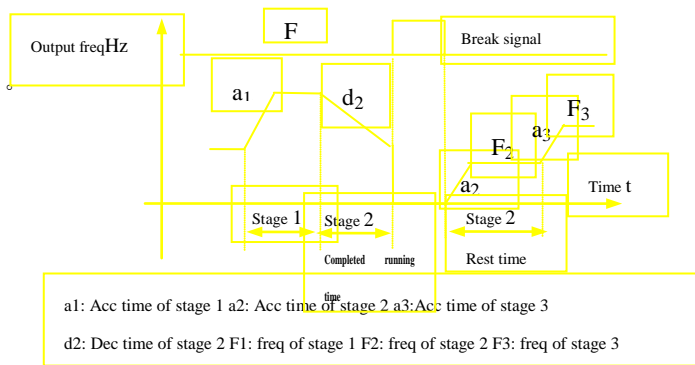

Fig.6-43 PLC restart mode 1
The inverter automatically starts a new cycle after one cycle finish until receiving stopping command shown as Fig.6-43.
**1:** Restart from the freq. of break stage. After stop caused by stopping command or fault, the inverter will record the running time completed of starts from break stage and runs at set freq.of break stage in rest time of break stage shown as Fig.6-43.